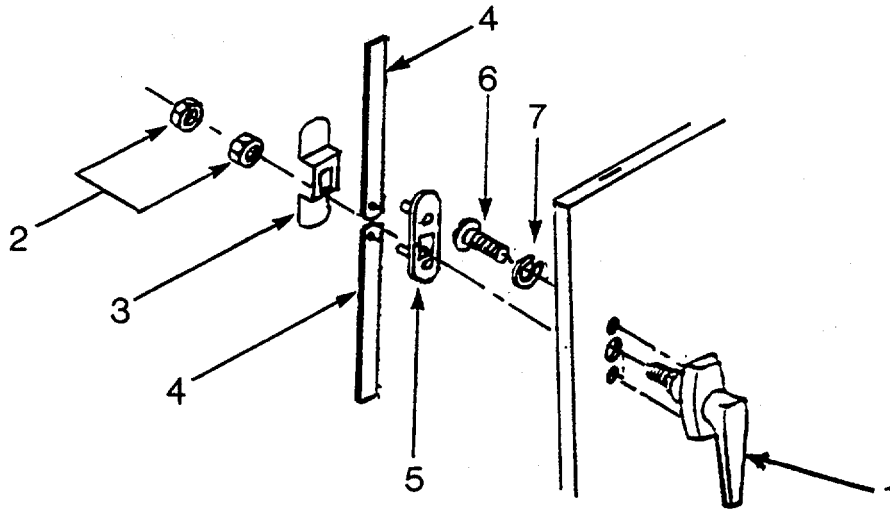

Figure 4-20. Water Supply Cabinet Assembly Handle
- (1) Inspect water supply cabinet on curbside of darkroom for dents, cracks, and security of mounting.
- (2) Inspect water supply cabinet welding for breaks or separation of seams.
- (3) Inspect doors and door hinges for ease of operation and proper closing.
- (4) Inspect door handle and latching mechanism for ease of operation and ability to secure doors.
b. Repair. (See Figure 4-20.)
- (1) Remove water supply cabinet dents and straighten door and panels.
- (2) Repair breaks and separation of seams by minor welding.
- (3) Replace door handle assembly.
- (a) Remove door handle assembly (1) by removing nuts (2) and retainer plate (3).
- (b) Remove rods (4) and backing plate (5).
- (c) Remove bolts (6), star washers (7), and door handle assembly (1).
- (d) Install replacement door handle assembly (1) and secure with star washers (7) and bolts (6).
- (e) Install backing plate (5), rods (4), retainer plate (3) and secure with nuts (2).